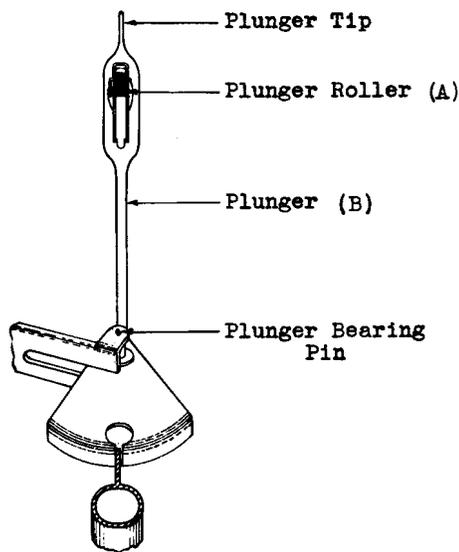

Fig. 3 — Switch Plunger
2.05 Straightness of Plunger: Fig. 3(B) — The plunger shall be approximately straight from the plunger bearing pin to the tip.